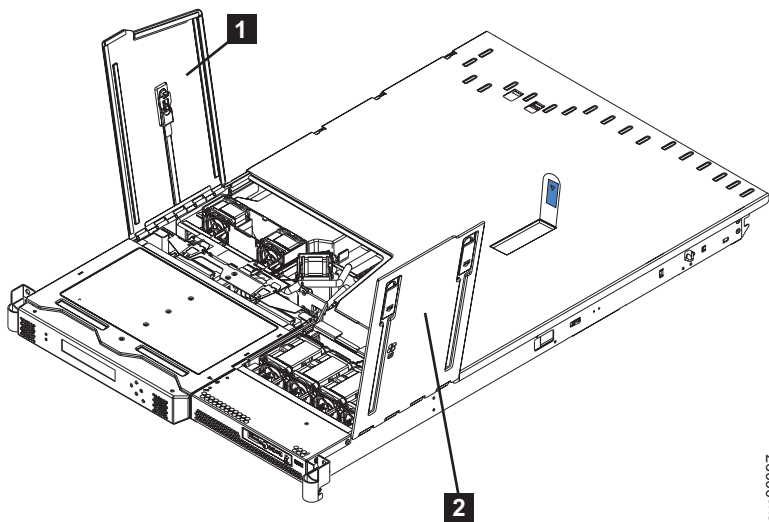

Figure 87. SAN Volume Controller 2145-8F2 or SAN Volume Controller 2145-8F4 with fan doors open
4. Close the fan door (**1** in Figure 87) and replace the node in the rack.